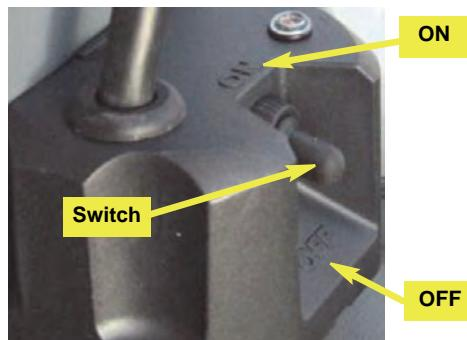

Figure 5a: Junction box ON/OFF switch - within easy reach of the operator
*When mounting the junction box in the following steps, ensure that the ON/OFF switch on the junction box is within easy reach of the operator. See Figure 5a. The switch must be in the OFF position when the vehicle is not under field guidance or on a road.*